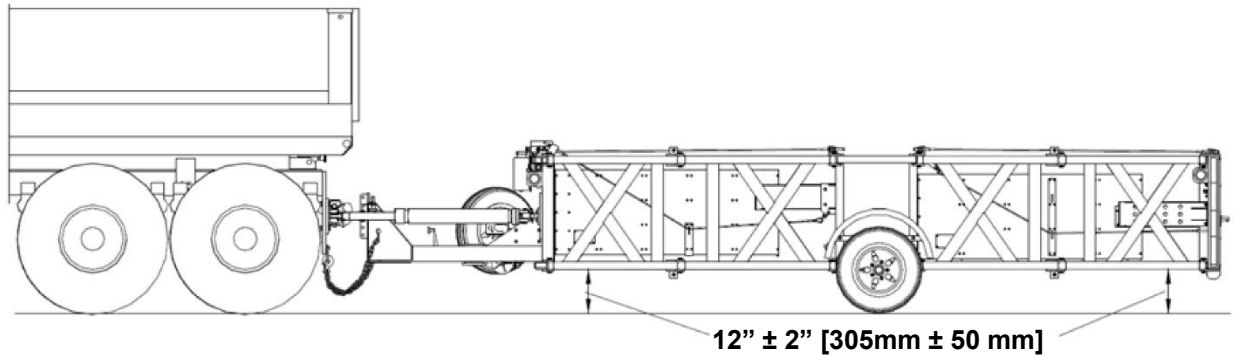

Figure 4
- The TMA should be securely fastened to the truck. In the horizontal position on level ground, the bottom of the TMA should be 12" ± 2" [305 mm ± 50 mm] from the ground and level (Figure 4).